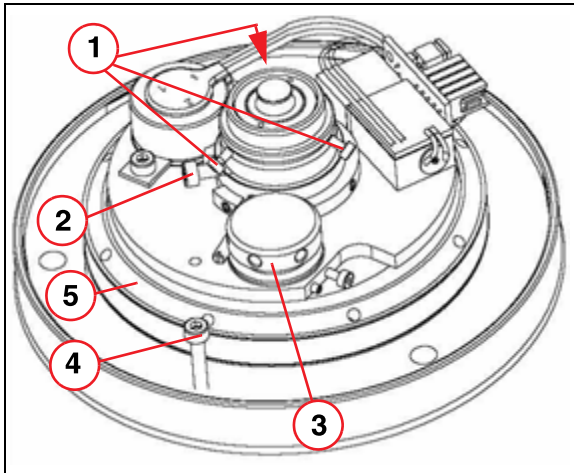

Fig. 11: Adjusting the camera
1. Loosen the clamping screw (4/Fig. 11 / p. 42).
2. Loosen the lock ring (5/Fig. 11 / p. 42).
4. Remove the 3 Allen screws from the camera flange (1/Fig. 11 / p. 42).
6. Rotate the camera until the plugs are at the same location as prior to the adjustment and retighten the 3 M2 Allen screws (1/Fig. 11 / p. 42).
7. Tighten the lock ring (5/Fig. 11 / p. 42).
8. Retighten the clamping screw (4/Fig. 11 / p. 42).
1. Loosen the focus ring clamping screw (2/Fig. 11 / p. 42).
2. You can adjust the optimum sharpness by turning the focus ring (3/Fig. 11 / p. 42).
4. Retighten the focus clamping screw (2/Fig. 11 / p. 42).